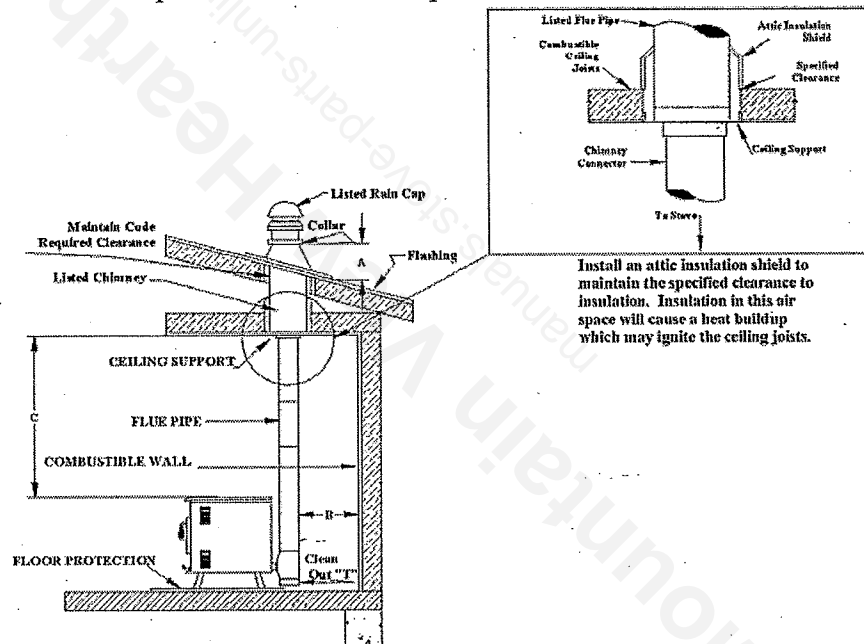

FIGURE 3: TRADITIONAL VENT PIPE
7. FIGURE 3 shows a traditional, as well as more efficient, flue pipe installation. Note the dimensions that are required to be maintained in this type of installation. Dimension A must be a minimum of 24", dimension B must be a minimum of 3", and dimension C must be a minimum of 6". Again, check with the flue pipe manufacturer's installation instructions and code requirements for exact specifications.